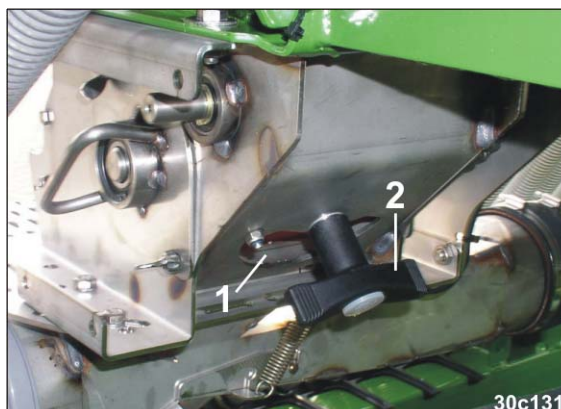

Fig. 178
- 6.2 Open the emptying flap (Fig. 178/1) by turning the handle (Fig. 178/2).